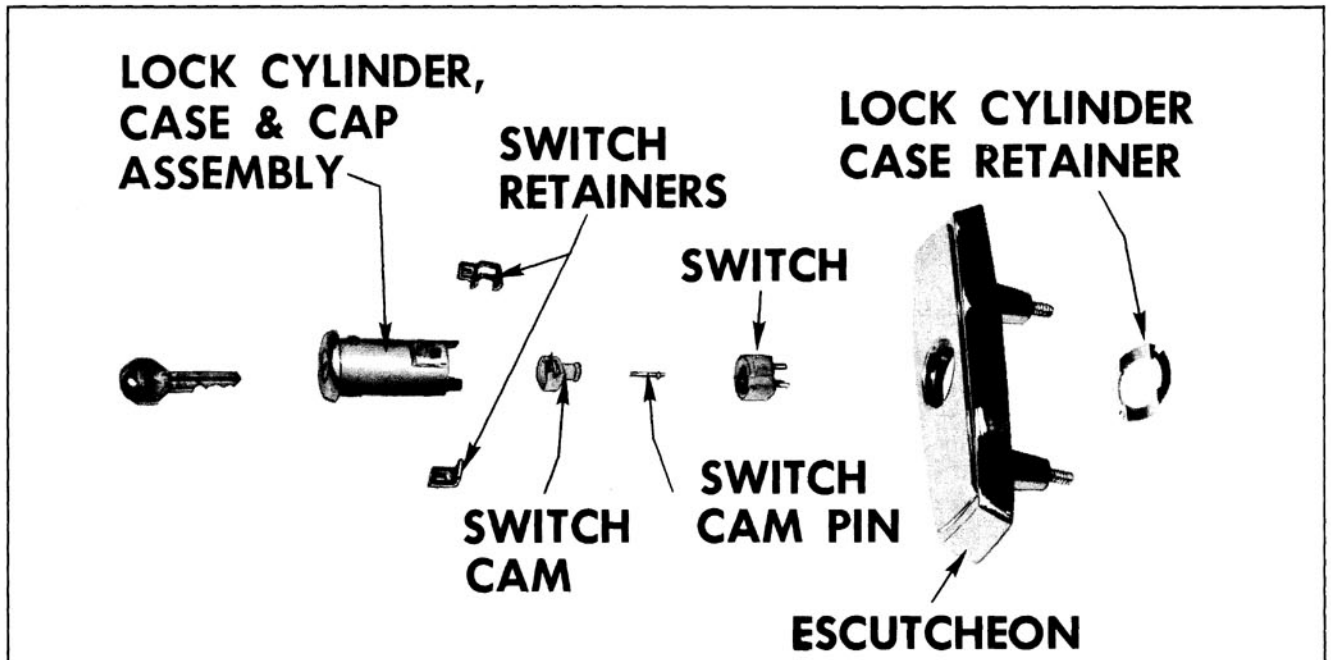

Fig. 16-479 Tailgate Outside Switch
2. Disengage lock cylinder case retainer (Fig. 16-479) and remove lock cylinder and switch assembly from escutcheon.